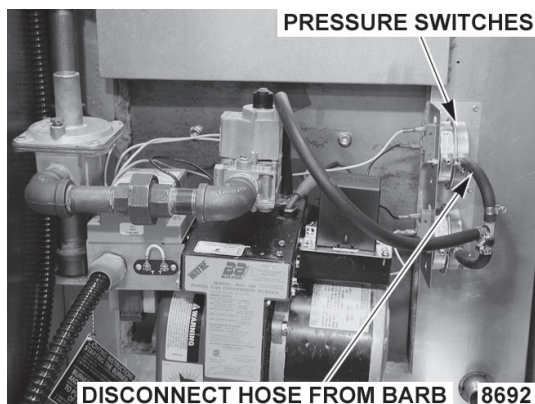

Fig. 12
4. Verify operation of combustion blower pressure switch (Fig. 12).
- C. With the burner flame established, pull the pressure hose off the pressure switch hose barb (Fig. 12).